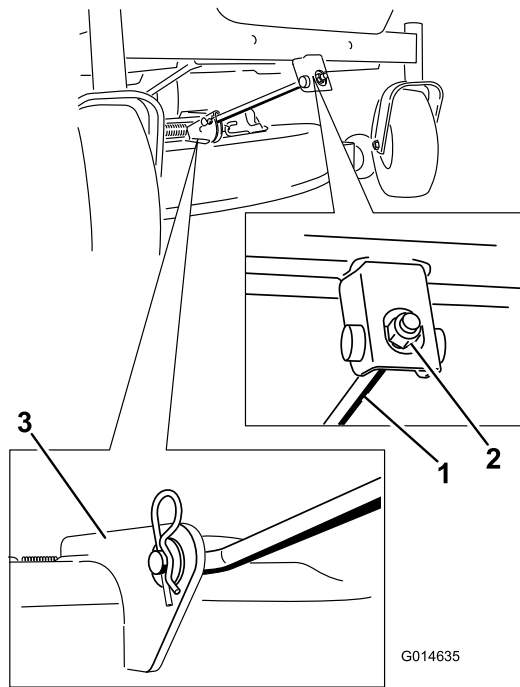

Figure 54
4. Remove the hairpin cotter from the front support rod and remove the rod from the deck bracket (Figure 54). Carefully lower the front of the mower deck to the ground.
6. Attach the front support rod to the mower deck with the clevis pin and hairpin cotter (Figure 54).